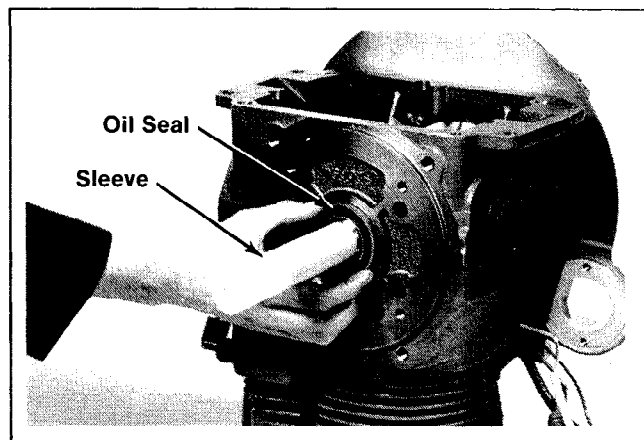
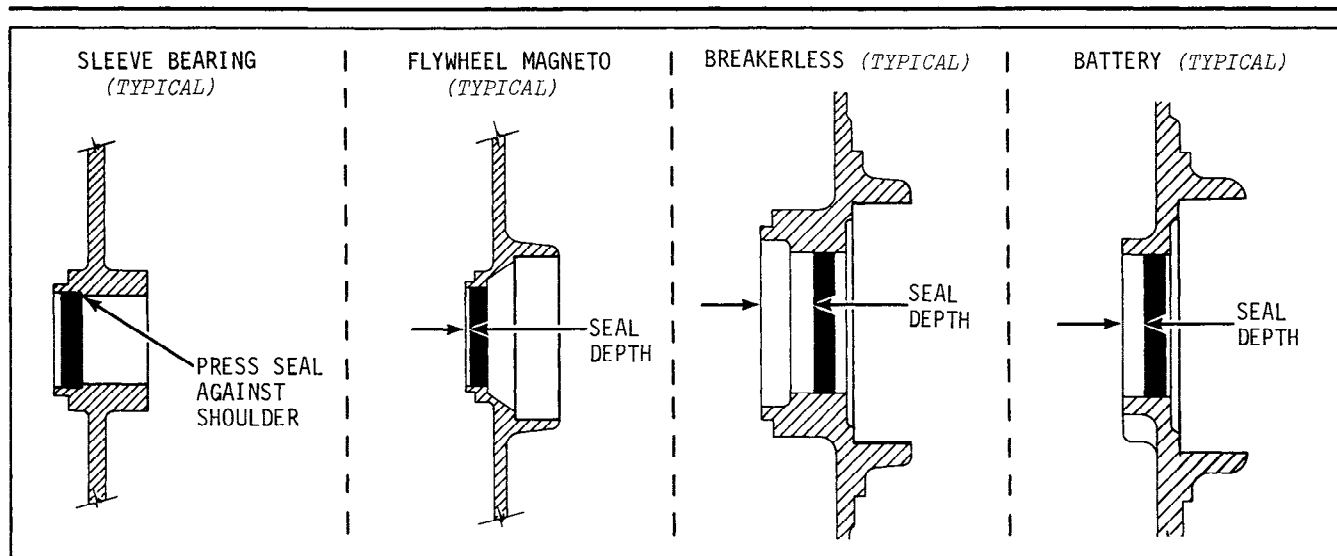

Figure 12-33. Installing Oil Seals Using Sleeves.
Figure 12-34. Front Oil Seal Location.
1. Slide the appropriate seal sleeves over the crankshaft (refer to the "Special Tools" section). Generously lubricate the lips of the oil seals with light grease. Slide the oil seals over the sleeves. Refer to Figure 12-33.
Note that the front oil seal depth varies with engine model and type of bearing plate used—bearing plate configuration differs with type of ignition system used—these differences are shown in the cut-away views in Figure 12-33 to help identify the various bearing plate types. Rear oil seal installation details are shown in Figure 12-34.